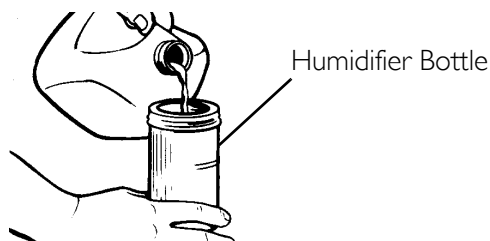
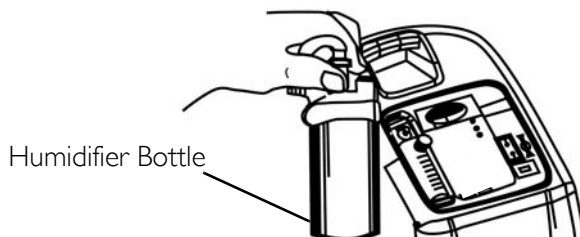
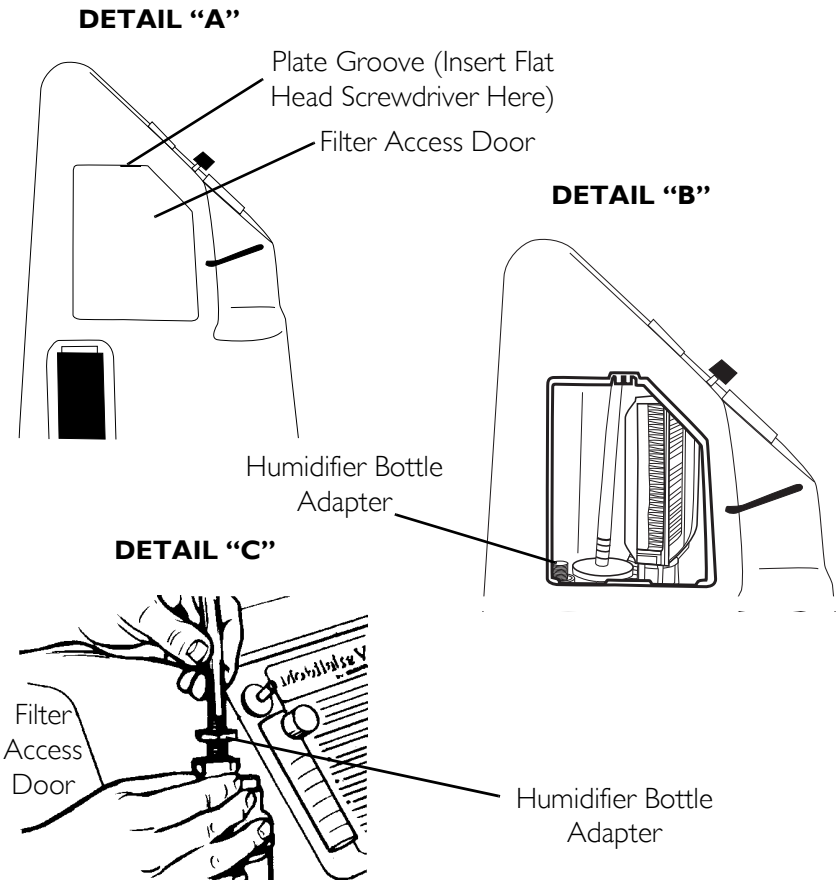
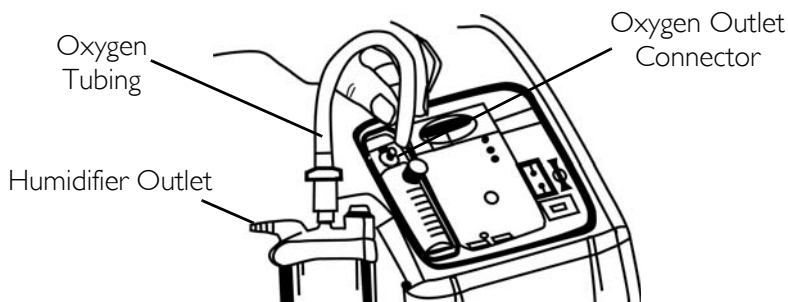

FIGURE 5.1 Filling the Humidifier
FIGURE 5.2 Humidifier Compartment
FIGURE 5.3 Attaching the Humidifier Bottle Adapter
FIGURE 5.4 Attaching the Oxygen Tubing
NOTE: For this procedure, refer to FIGURE 5.1, FIGURE 5.2, FIGURE 5.3 on page 20 and FIGURE 5.4 on page 21.
3. Remove the filter access door located on the side of the concentrator. Insert a flathead screwdriver in the plate groove on the top edge of the filter access door and gently pry the filter access door open. Refer to Detail "A" in FIGURE 5.3.
4. The humidifier adapter is next to the inlet filter. Pull up and remove the humidifier bottle adapter. Refer to Detail "B" in FIGURE 5.3.
5. Attach it to the humidifier by turning the wing nut on the humidifier bottle counterclockwise until it is securely fastened. Refer to Detail "C" in FIGURE 5.3.